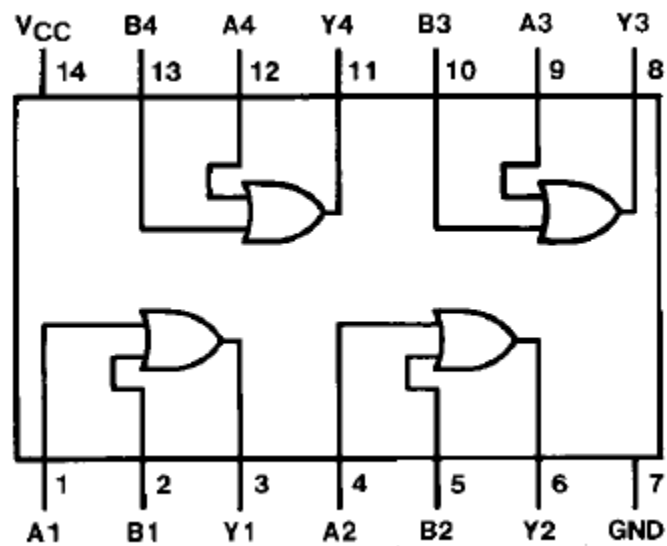

Figure 19
**Note:** There are four OR gates inside the 74LS32 IC. You can see them below in Figure 19.